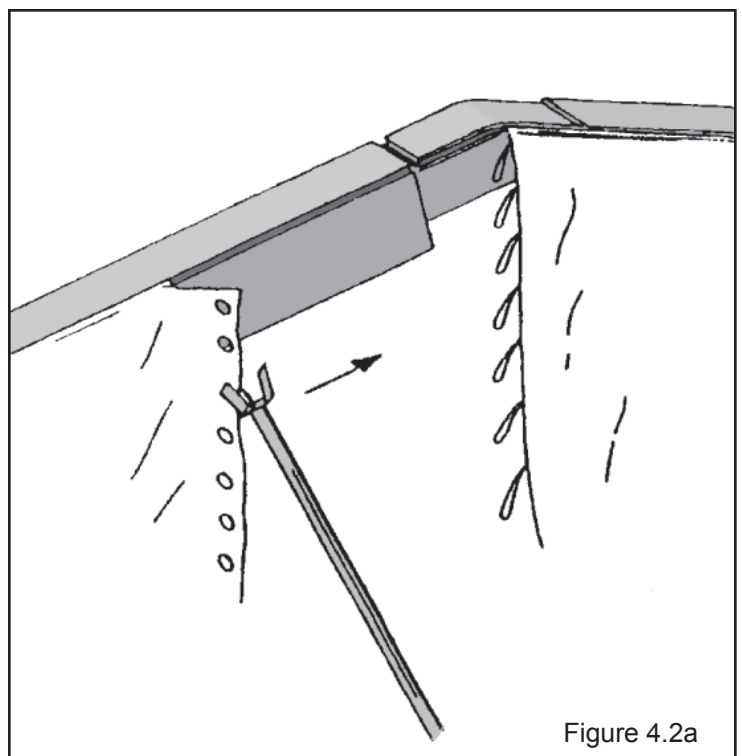
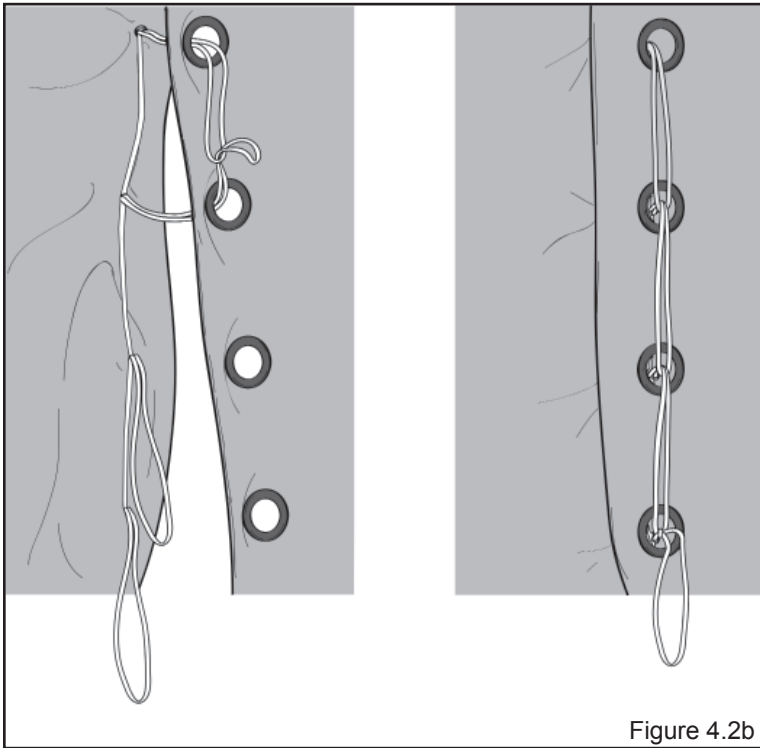

Figure 4.2a
Figure 4.2b
- 4.2.2 Using the purlin fork, grab the ring with the end of the tool and push the kedar up through the channel until it is at the center of the ridge. See **figure 4.2a.** When both pieces of the gable end are installed in the channel and meet at the top, fasten the rings together with the carabiner and begin lacing from the peak down to the bottom of the gable end. Tie off the last loop. See **figure 4.2b.**